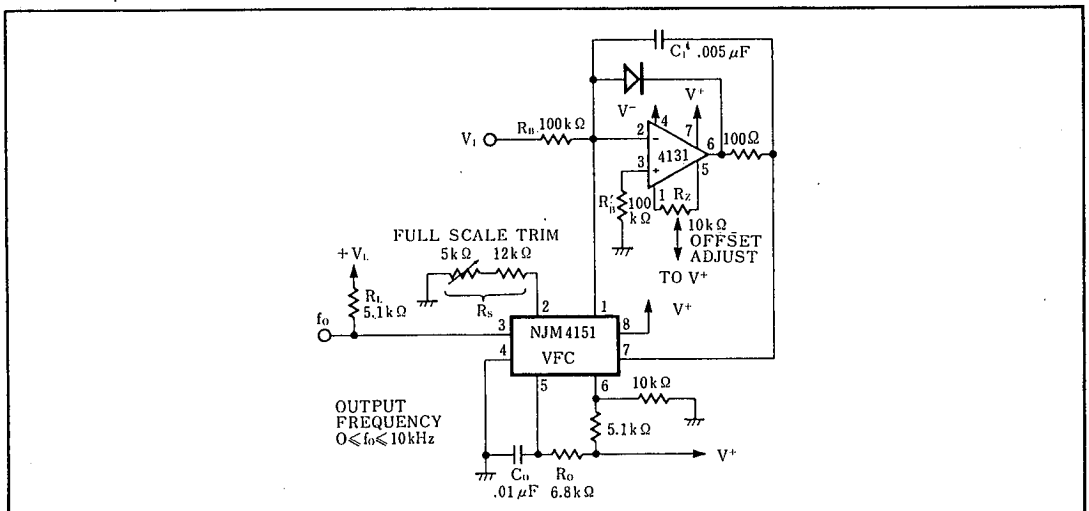

Figure 4. Precision Voltage-to-Frequency Converter
In this application (Figure 4) the 4151 VFC is used with an operational amplifier integrator to provide typical linearity of 0.05% over the range of 0 to $-10V$. Offset is adjustable to zero. Unlike many VFC designs which lose linearity below 10mV, this circuit retains linearity over the full range of input voltage, all the way to 0V.
1. Set $R_S=14\text{k}\Omega$ or use a $12\text{k}\Omega$ resistor and $5\text{k}\Omega$ pot as shown in the figures. (The only exception to this is Figure 4.)
- b) For the precision mode circuit of Figure 4, set $R_{11}=V_{10}/100\mu\text{A}$ where V_{10} is the full scale input voltage. Alternately the op-amp inverting input (summing node) can be used as a current input with full scale input current $I_{10}=-100\mu\text{A}$.
- I. Design a precision VFC (from Figure 4) with $f_0=100\text{kHz}$ and $V_{10}=-10\text{V}$.